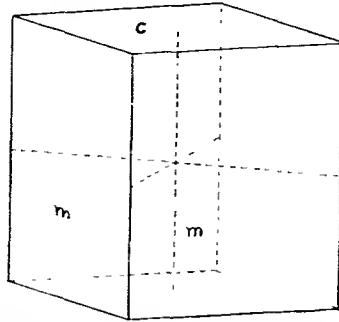
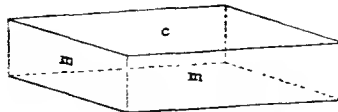

Figure 42. Simple Orthorhombic Form
Figure 44. Simple Form of Barite Crystal
*different lengths.* One of the simplest forms of the orthorhombic system is shown in figure 42. How does it differ from the cube of the isometric system and the tetragonal prism? First note that, because the vertical and horizontal axes are of different lengths, its vertical faces, lettered  $m$ ,
Figure 44 shows a simple crystal of barite, with the same forms as figure 42, but with the vertical axis much shorter, thus producing a
the great orthorhombic system. Among them are such outstanding species as topaz, figures 158-160, aragonite, chrysoberyl, figure 163, staurolite, figures 99-101, barite, figures 44, 47, 165, 166, celestite, anglesite, cerussite, stibnite and chalcocite. It is well to know something about their crystals, even though the forms of many are so complex as not to be easily understood. This very fact stimulates our ambition to study them and we shall have the mastery of their forms as one of our delightful goals.